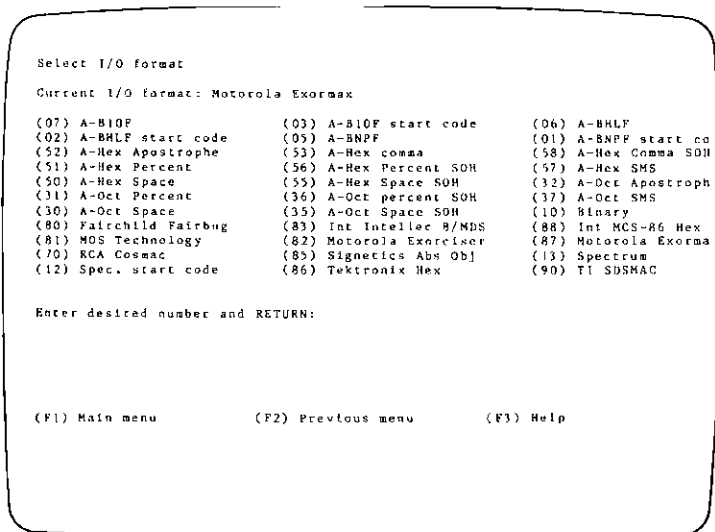

Figure 3-54. Select I/O Format Menu
All data transfers between the programmer and the computer are performed according to an input/output (I/O) format or protocol for data being transmitted and received. The format to be used is selected from the *Select I/O Format screen which is accessed from the Configuration Functions (9) on the Main menu (Figure 3-54)*. The menu lists the available formats with a number preceding the name of each format. Select a format by entering its number and pressing the RETURN key.